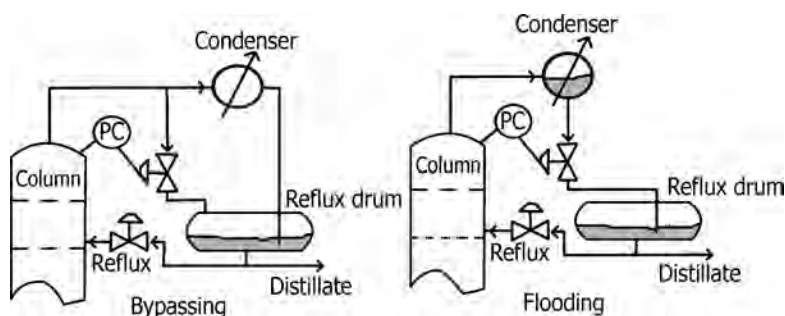

FIGURE 17.41 Bypassing and flooding the condenser illustrated.
- (2) Column pressure is more often controlled by manipulating rate of condensation either bypassing or flooding the condenser, as illustrated in Figure 17.41.